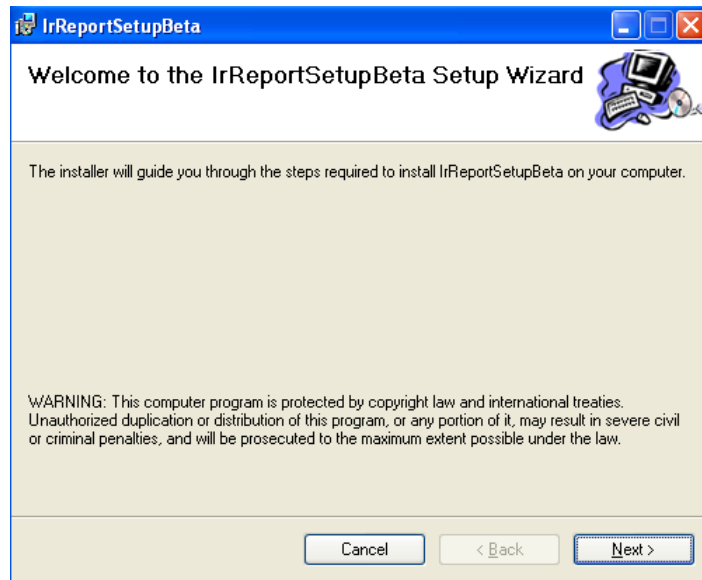

Fig.1.2.2
- Click the Next button to continue the installation or Back button to the previous step or Cancel button to terminate the installation (see Fig. 1.2.2);